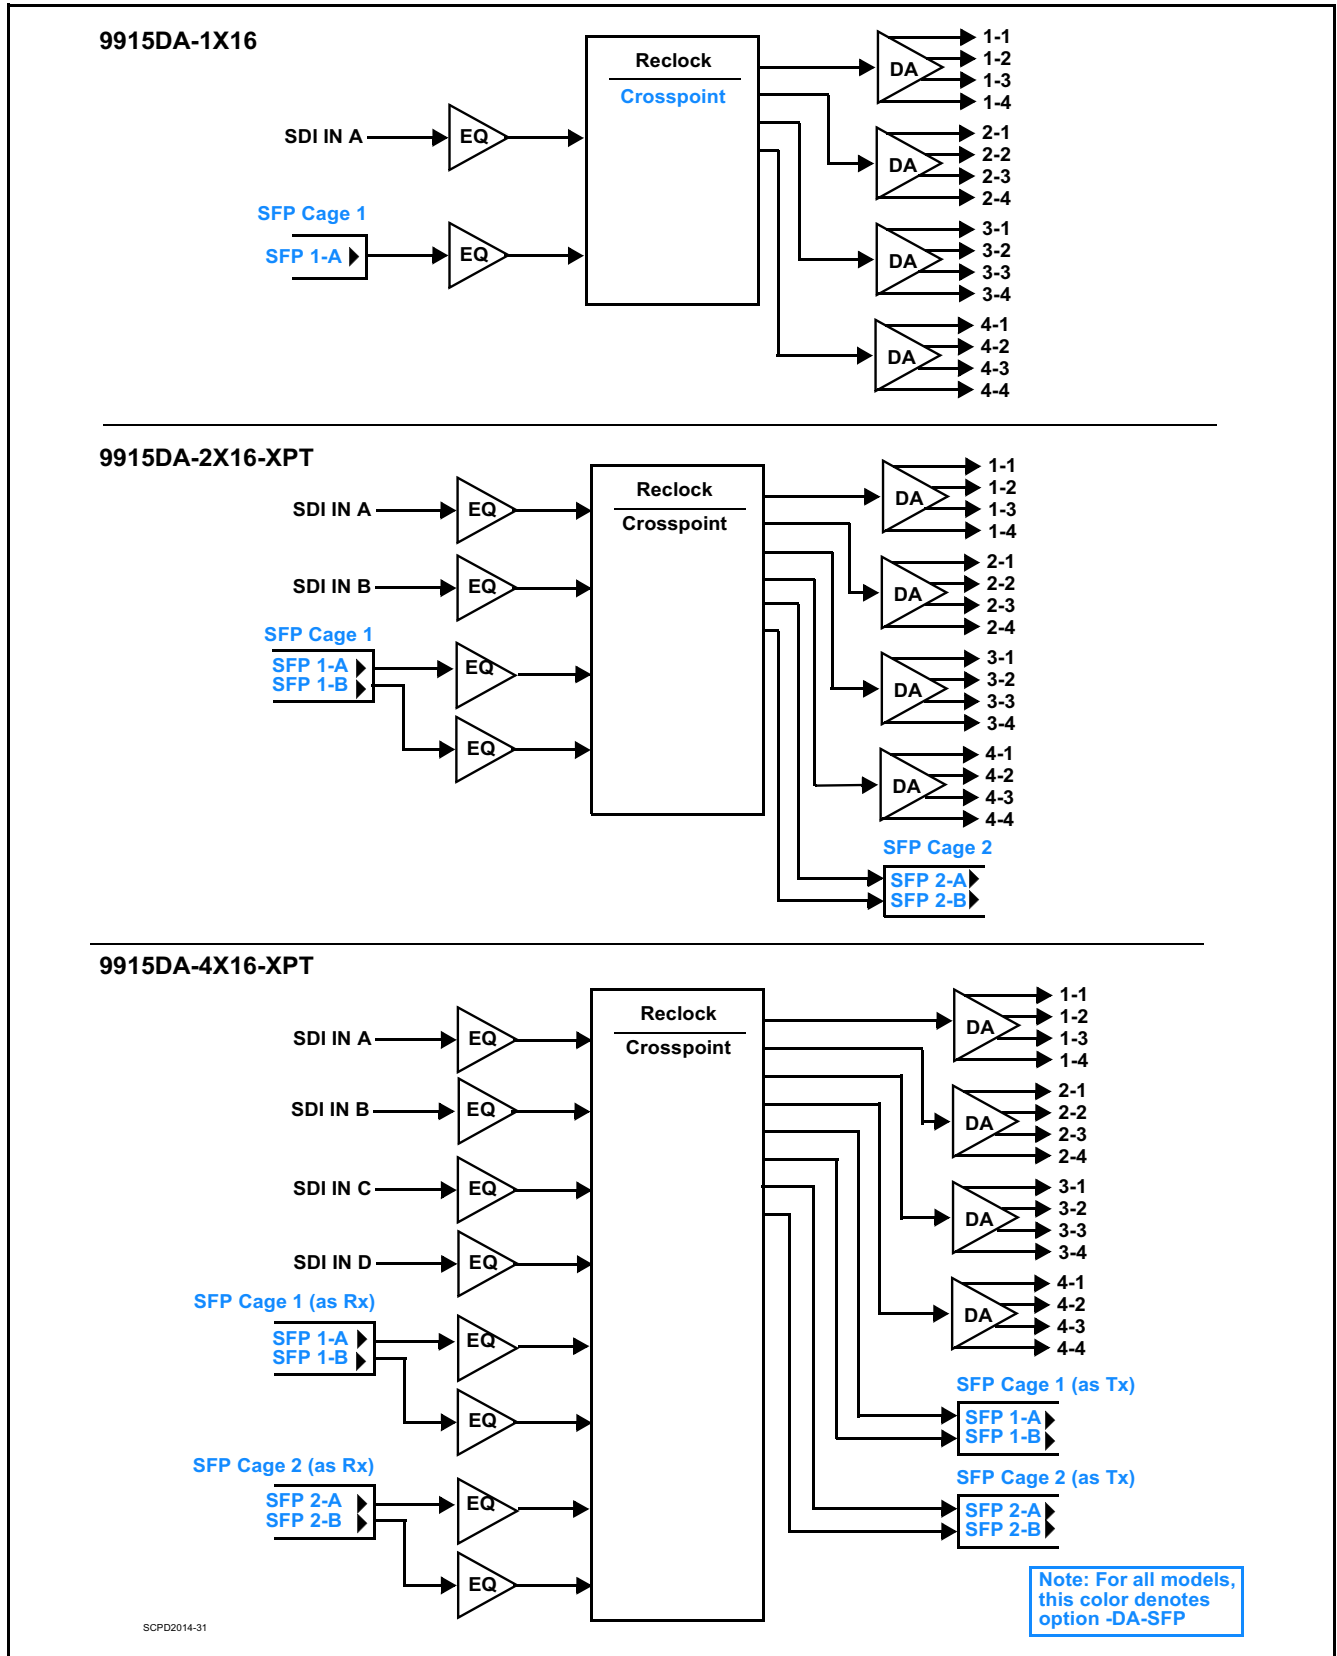

Figure 1-1 9915DA Functional Block Diagrams
Figure 1-1 shows functional block diagrams of the various 9915DA models. All 9915DA models are based around four DA circuits, with each circuit providing a 1x4 distribution of the input. All outputs are non-inverting. All inputs are equipped with cable equalizers.
- Depending on card model, SFP cages may be restricted to being fitted with only Rx (OE) or Tx (EO) SFP types. See Table 1-1 and Figure 1-1 for details.
All signal inputs and outputs shown in the 9915DA Functional Block Diagrams (Figure 1-1) enter and exit the card via the card edge backplane connector. The Rear I/O Module breaks out the card edge connections to coaxial and other connectors that interface with other components and systems in the signal chain.